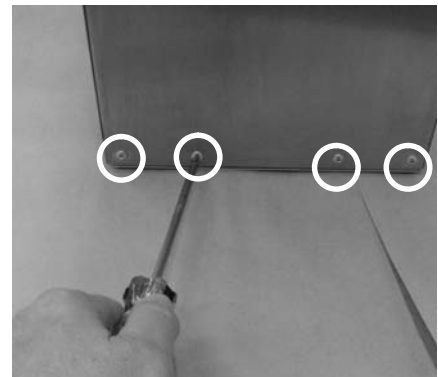

Figure 6-13 Removing Blower Plug and Screws
4. See Figure 6-13. Remove the M4 x 10 Philips screw next to the blower cable receptacle. Unplug the blower cable from the receptacle.
2. See Figure 6-13. Replace the 8 screws at the base of the lamphead (4 front and 4 rear). Install the two screws into the cover on both sides of the unicable receptacle. Tighten the screws to 1.35 N•m (12 in-lbs).